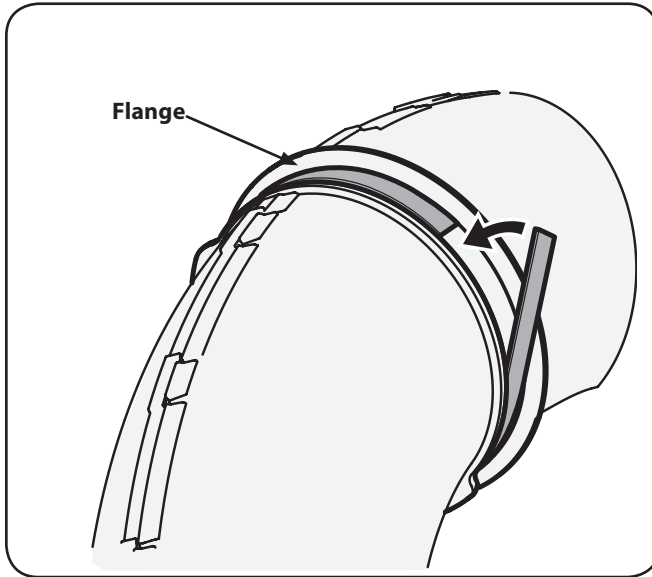

Figure 4-20
1. Peel the backing off of the self-adhesive foam strip (721-04388) that has been included within your Carton of Contents. Apply it to the upper chute, flush against the flange as shown in Figure 4-20.